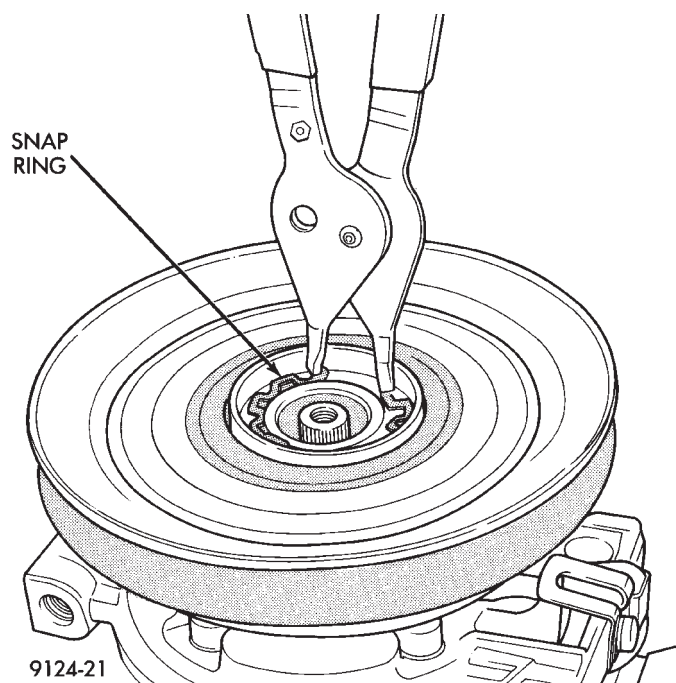

Fig. 3 Removing Pulley Snap Ring
- (3) Remove pulley retaining snap ring with Snap Ring Pliers (C-4574), and slide pulley assembly off of compressor (Fig. 3).
- (4) Remove coil wire bracket/ground clip screw and wire harness.